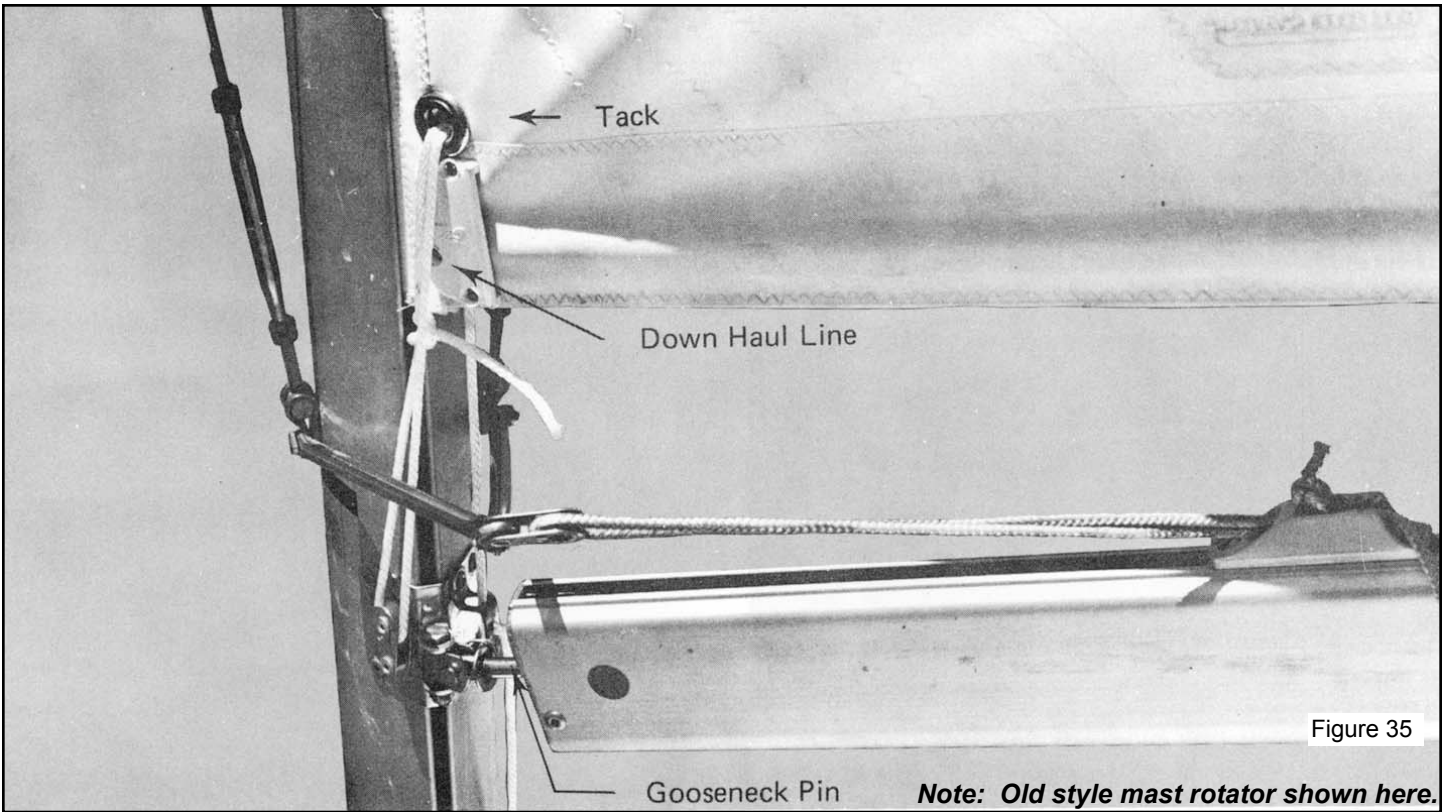

Figure 35
See Figure 35.
7. Tie the downhaul line to the tack of the sail and lace the downhaul as shown in Figure 35.